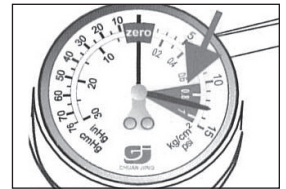

Figure 15
3. When the pressure gauge indicator is in the red area 10~15psi / 0.7~1kg/cm², the pressure will release to the normal range (Figure 15).